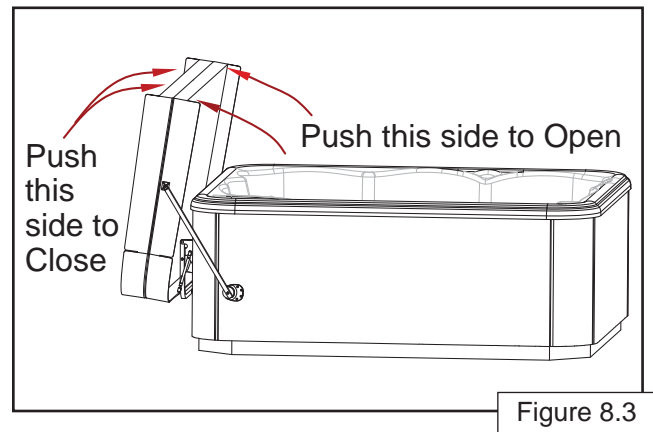

Figure 8.3
3. Push on either side of cover to open or push on either side of cover to close (Figure 8.3). Cover should come to a gentle rest with a slight tilt towards the spa.